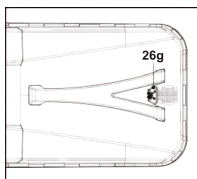

Fig. 14
1. When the hatch (26g) is opened, the grass catcher (26) has sufficient volume left to collect grass (Fig. 14).